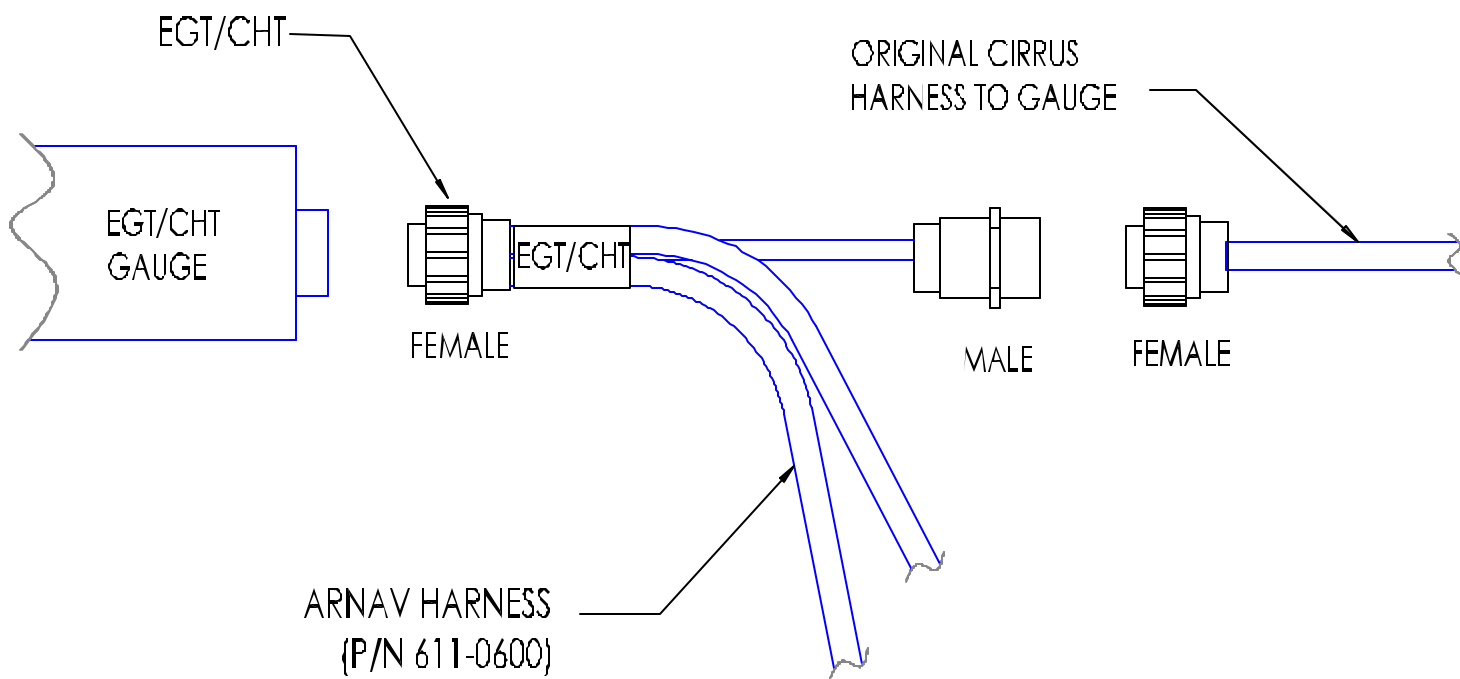

Figure 9-1
5. Connect the other 9-pin connector of the 611-0600 harness to the 9-pin connector that was removed from the indicator. (Refer to **Figure 9-1**).